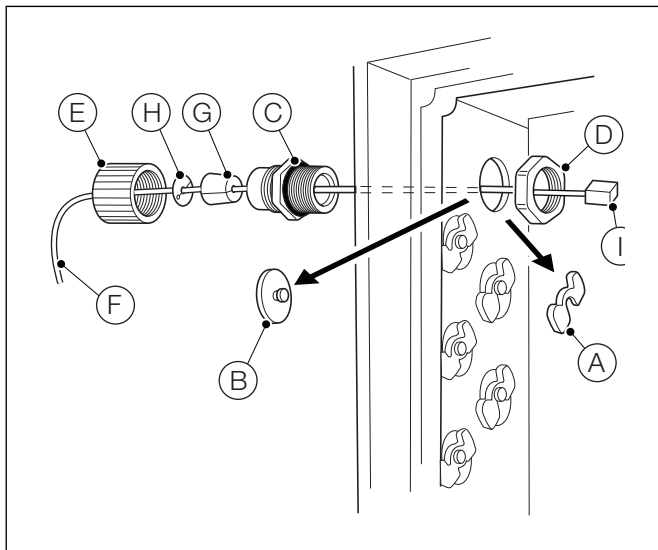
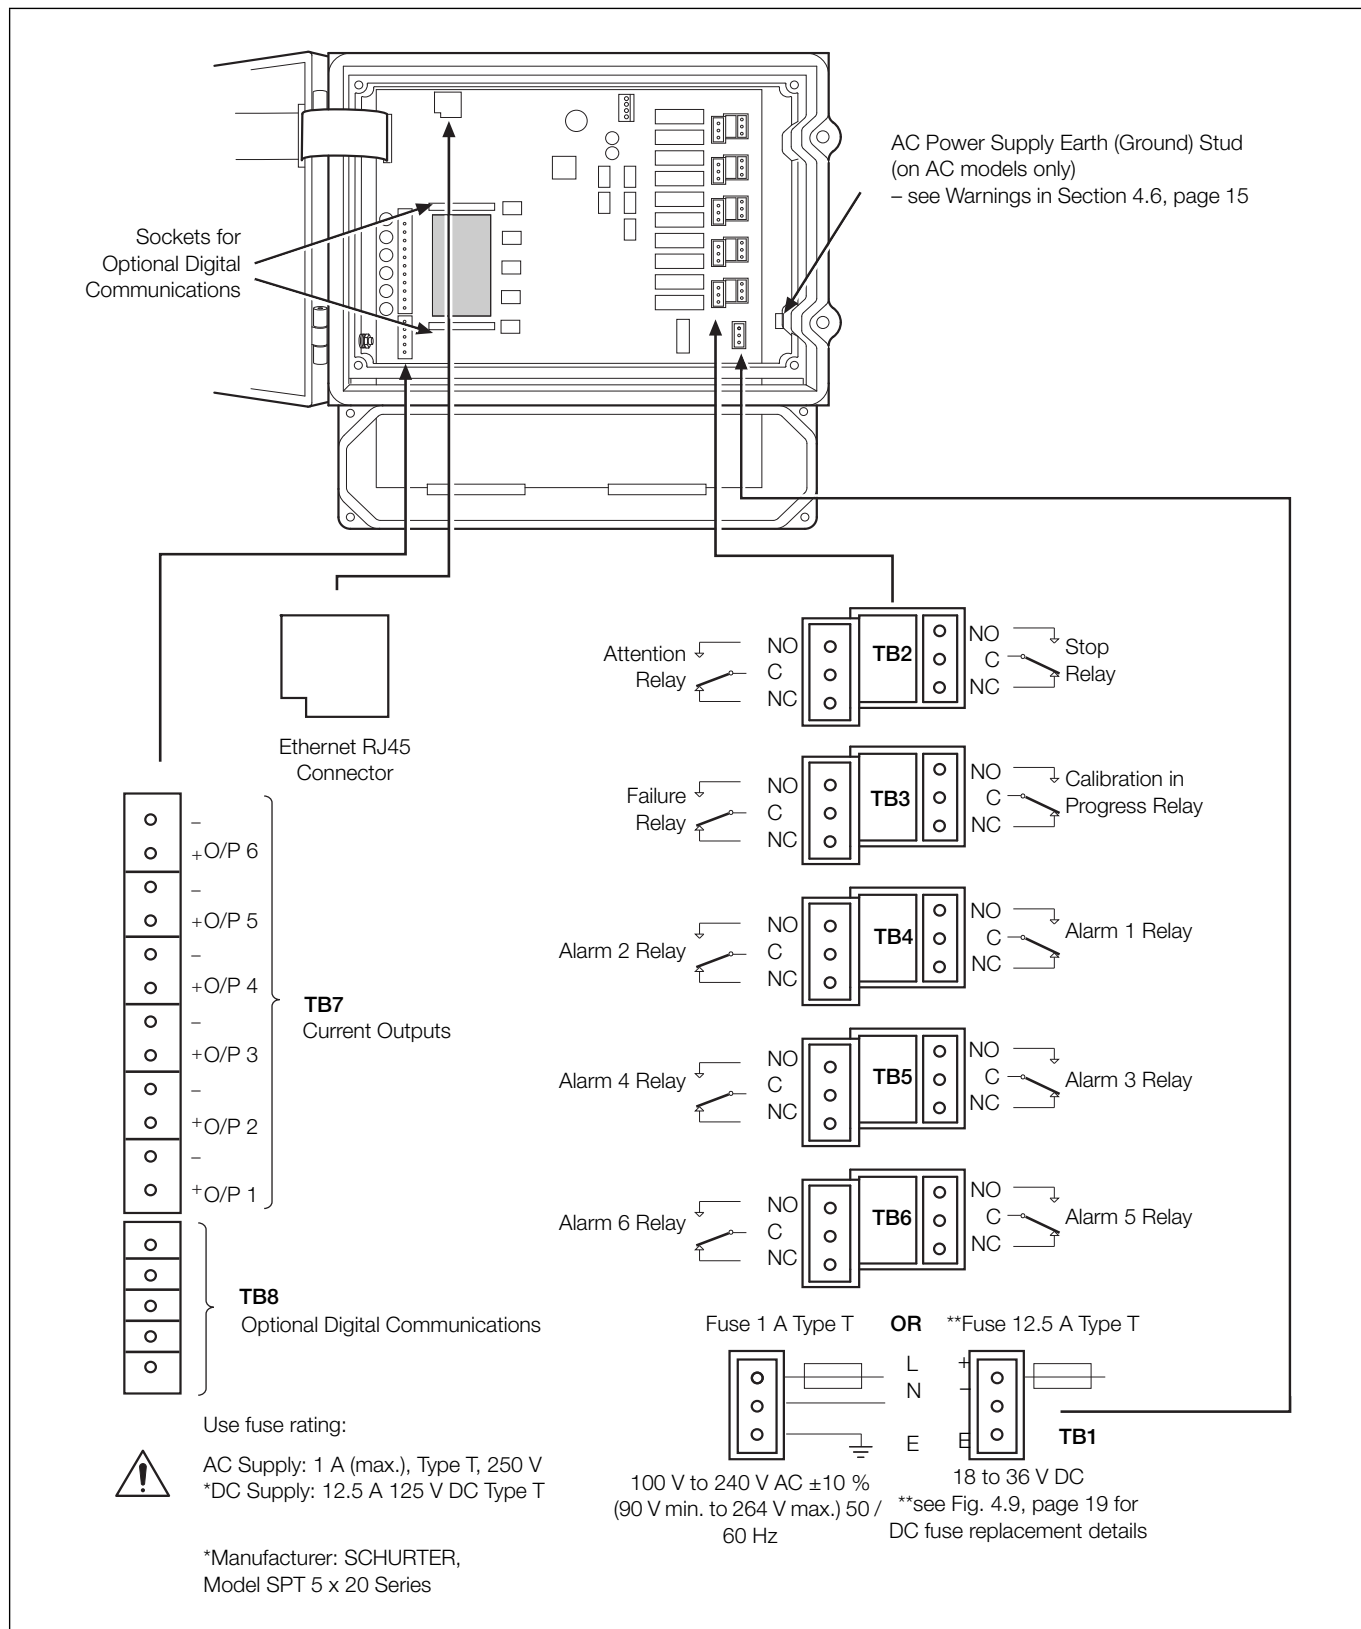

Fig. 4.6 Ethernet Connections
Fig. 4.7 Connections Overview
- Ensure the correct fuses are fitted – Fig. 4.7, page 18 for fuse details.
- Application board connection labels for the terminal blocks are identified in Fig. 4.7 on page 18.
1. Turn the two electronics section door retaining screws (A) $\frac{1}{4}$ turn counter-clockwise and open the door.
2. Using a cross-head screwdriver, remove the four screws (B) and remove the transparent cover plate (C).
3. For each cable entry, slide retaining clip (D) off blanking plug (E) and remove the blanking plug.
4. Fit cable gland (F) and secure using nut (G).
5. Remove gland cover (H) and route cable (I) through the gland cover.
6. Route the cable through cable gland (F) and through the enclosure case.
7. Remove each terminal block connection plug (J) and, using a small flat-bladed screwdriver, make connections to each plug. Ensure wires are connected to the correct terminals – see Fig. 4.7, page 18.
9. Tighten gland nut (H) for each connection made.
11. When all the connections are made, replace the transparent cover plate (C) and secure using the four screws (B). Close the door to the electronics section and secure by turning the two door retaining screws (A) $\frac{1}{4}$ turn clockwise.
2. Referring to Fig. 4.6:
- a. Slide retaining clip (A) off blanking plug (B) and remove the blanking plug.
- b. Fit cable gland (C) and secure using nut (D).
- c. Remove gland cover (E) and route cable (F) through it.
- d. Fit the rubber split-bush (G) and split-washer (H) over the cable.
- e. Route the cable through cable gland (C) and into the enclosure case.
- f. Plug the RJ45 connector (I) into the Ethernet RJ45 connector socket on the application board (see Fig. 4.7, page 18 for location details) and tighten gland nut (E).